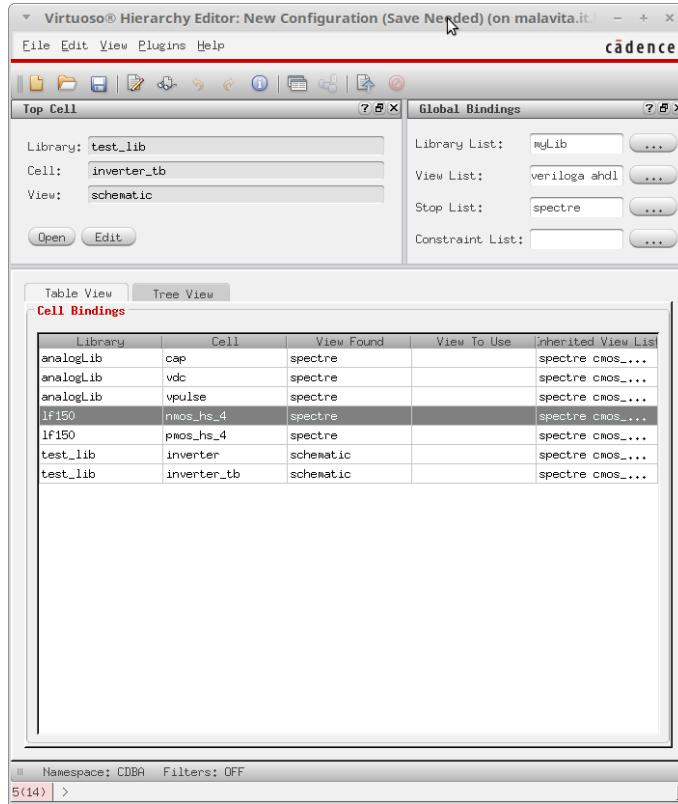

Figure 24: Virtuoso Hierarchy Editor Window
3. The "Virtuoso Hierarchy Editor" window will now look as in Fig. 24. The main idea is that you can set the view of every cell in a design by right-clicking on the "View Found" field in the "Cell Bindings" section and choosing Set Cell View. **NOTE:** Save the settings by pressing the corresponding button. Else, the config view will not be created.